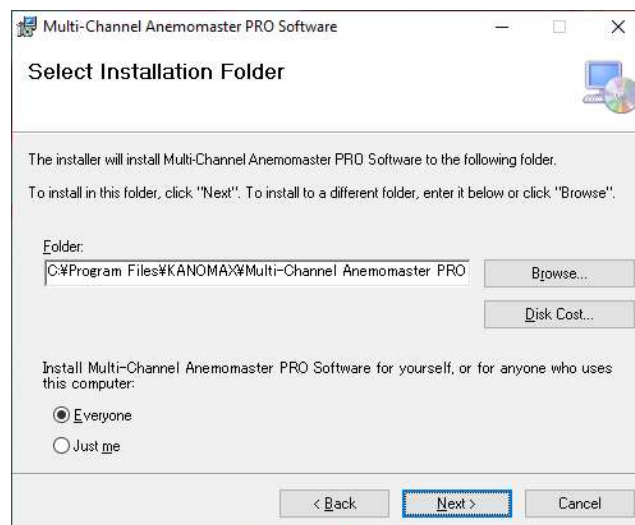

Figure 2-2 Select Installation Folder Screen
- 2) Click the **Next** button to display Figure 2-2 below. The default location to install is the download file folder. To install into a different drive or a folder, click "**Browse...**" and choose the required location.